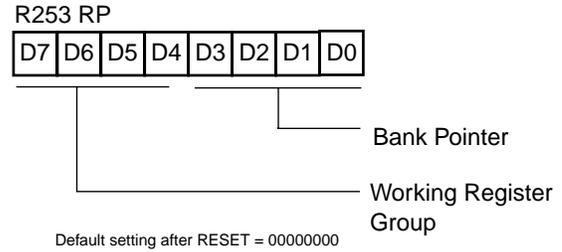
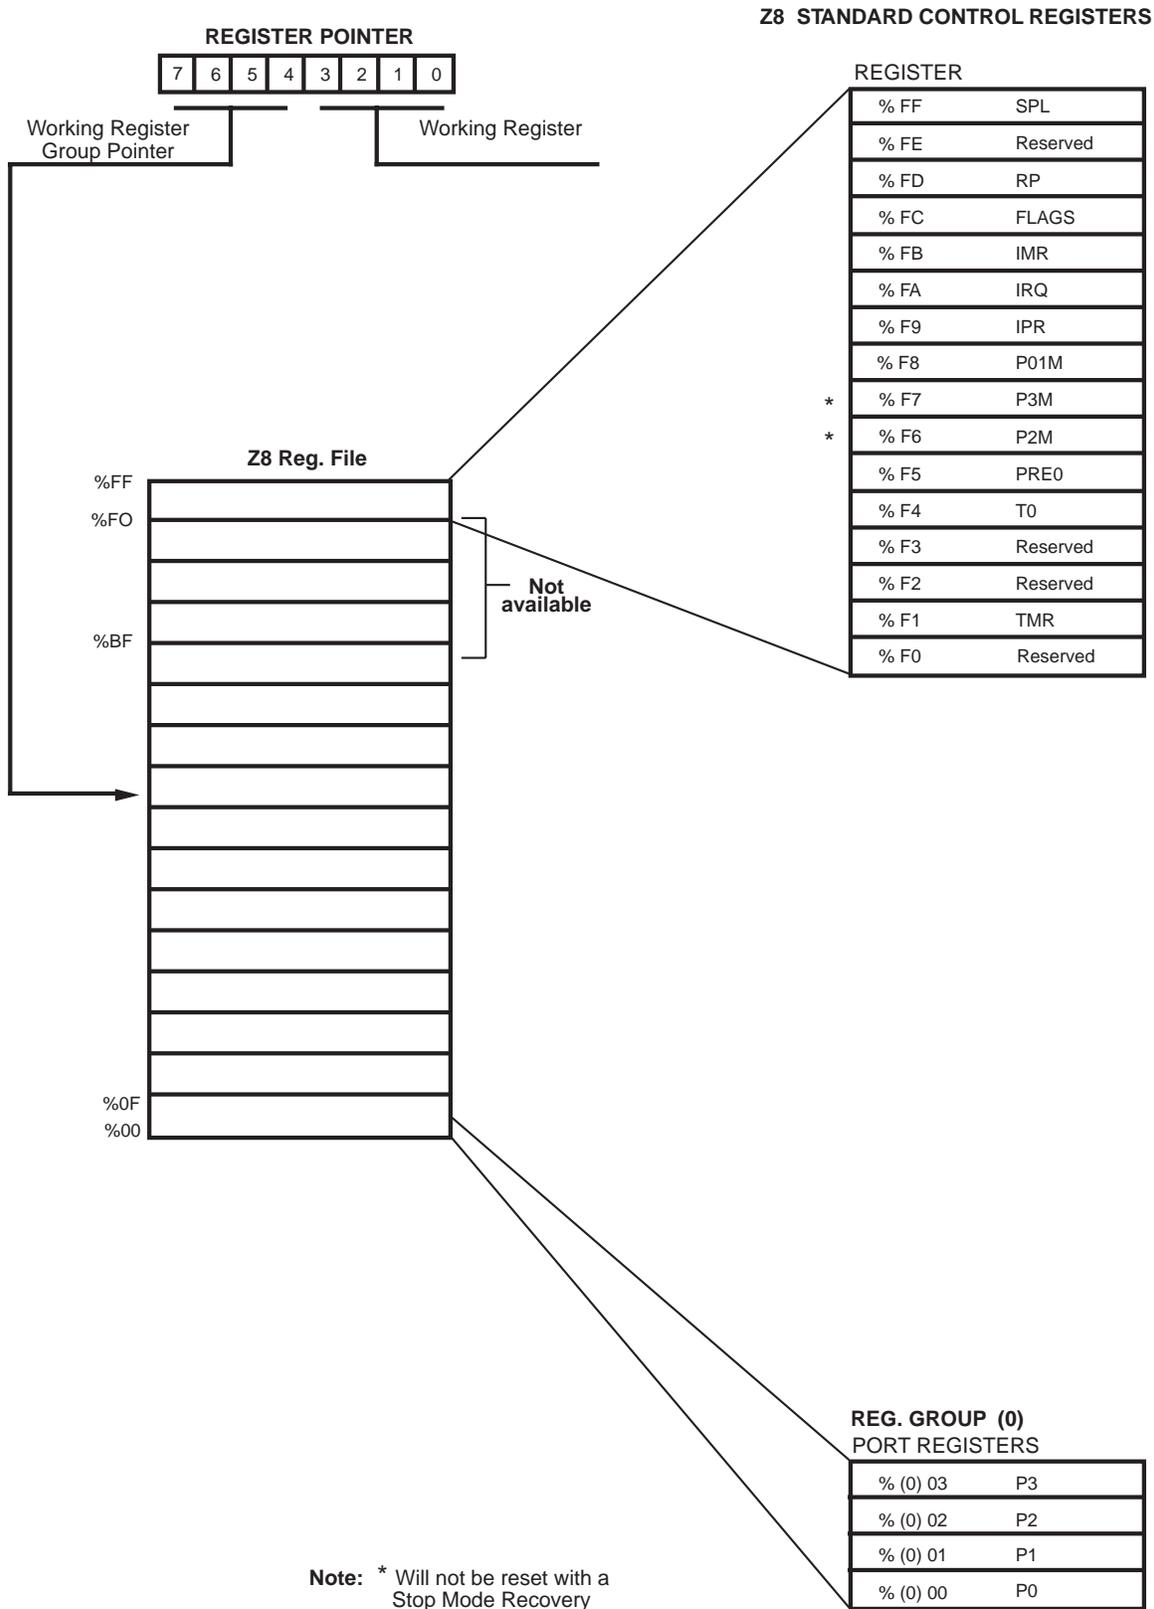

Figure 11. Register Pointer Register
Figure 12. Register File Architecture
**Register File.** The register file consists of four I/O port registers, 188 general-purpose registers and 11 control and status registers (R3–R0, R4–191, and R255–R240, respectively). The instructions can access registers directly or indirectly through an 8-bit address field. This access allows short, 4-bit register addressing using the Register Pointer (Figure 11). In the 4-bit mode, the register file is divided into 12 working-register groups, each occupying 16 continuous locations. The Register Pointer addresses the starting location of the active working register group (Figure 12).